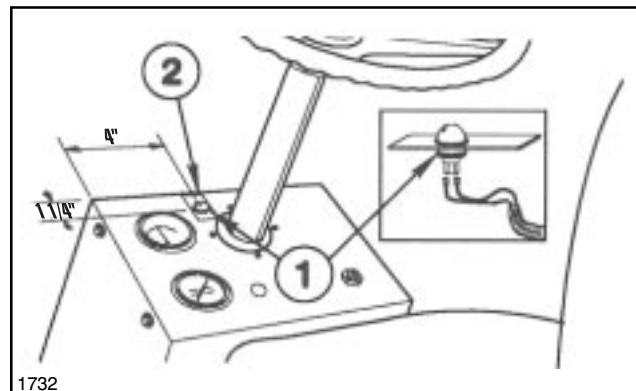

FIG. 11
4. Mount Fuse Block to Cover using two (2) #10 NC x 5/8" rec. rd. head machine screws and hex nuts.
6. Route Wiring Harness through floor and back through axle mounting bracket. Route the harness section with three (3) clear 6-pin connectors back along left side of Vehicle to behind engine. Then guide up, into the Seat Box.
7. Install Sonic Boom™ Decal and Indicator Light on Dash (11/16" DIA. hole required.) Connect Harness Leads to Light. Reinstall the Console Cover. See FIG. 11.